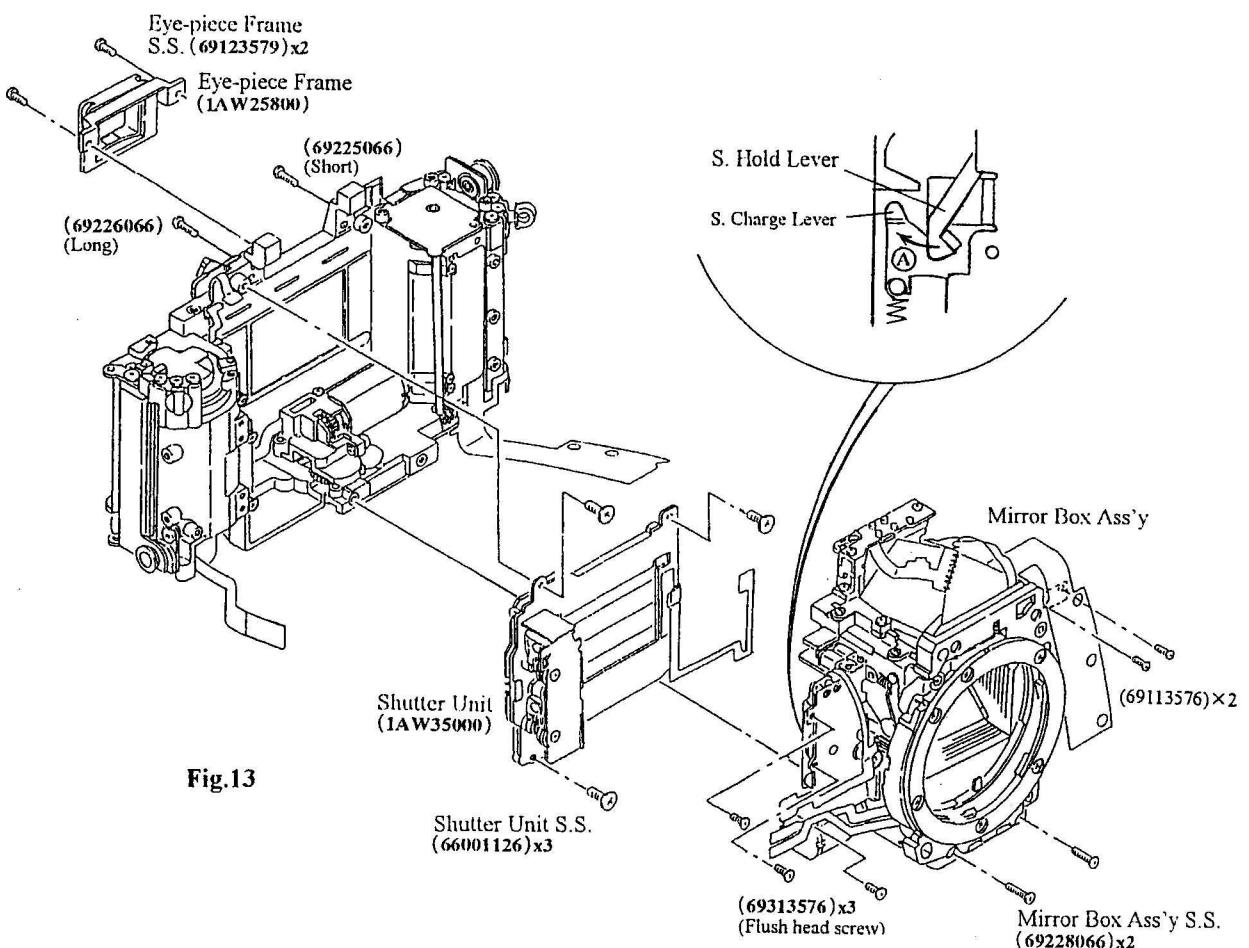

Fig.13
(See Fig. 13)
- a) By moving the S. Hold Lever incorporated in the Mirror Box Ass'y in the direction of the arrow Ⓐ, rotate the rotor of the S. Charge Motor to release the hook of the S. Hold Lever and the hook of the S. Charge Lever. In this state, where the mirror is in the UP position, install the Mirror Box Ass'y in the Body. (See Fig. 13)